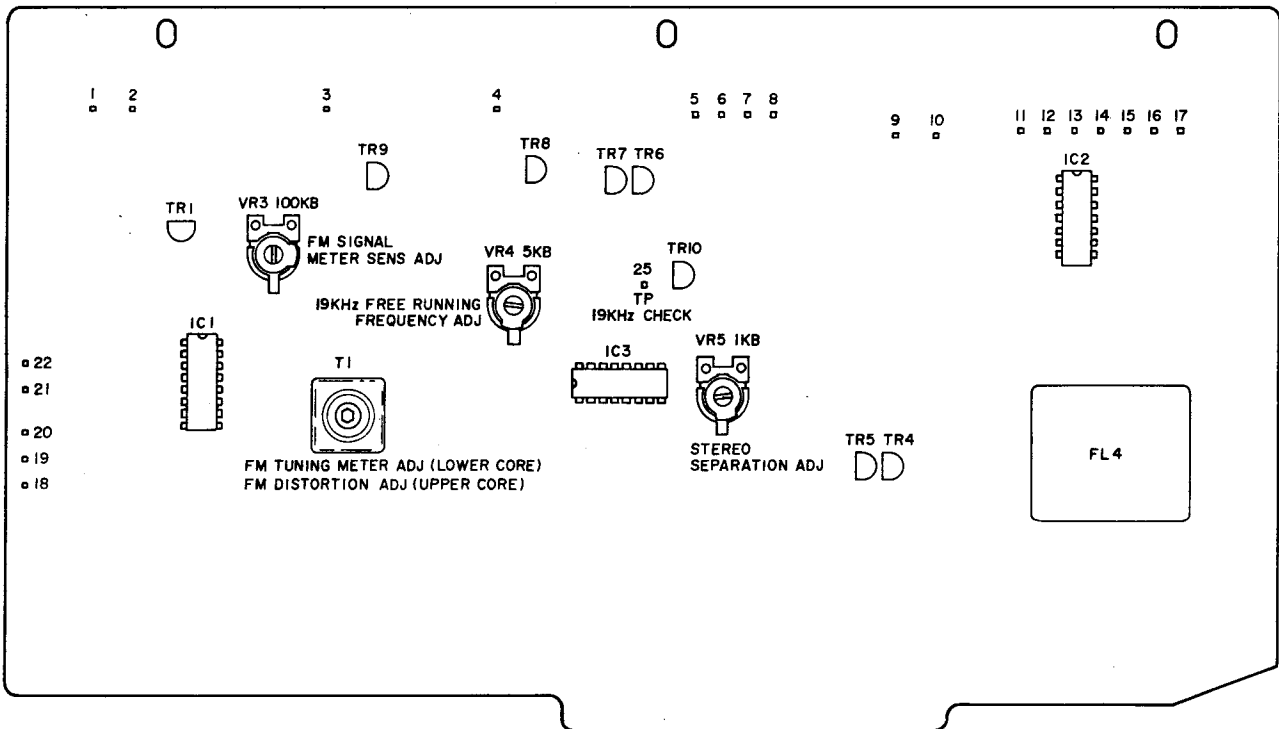

Fig. 15 FM IF P.C Board T2-5420A
2. AM TUNER SECTION ADJUSTMENT (Refer to Fig. 15 and 16)